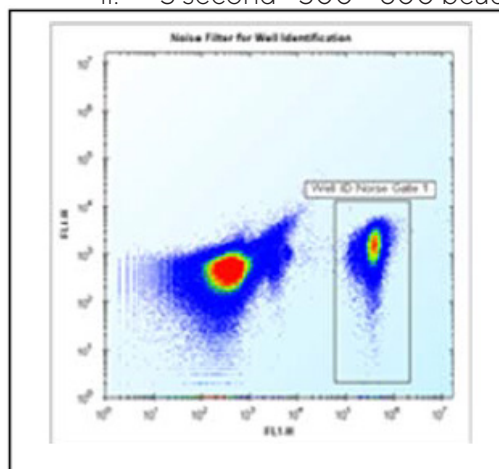

Figure 2. Setting of Noise Gate on FL-1 In-well Marker Beads. Beads are typically brightest fluorescence (far right) signal.
5.3 Draw a noise gate around the bead population. Typically, the beads will form a small cluster at the far right of the x-scale (**Figure 2**).